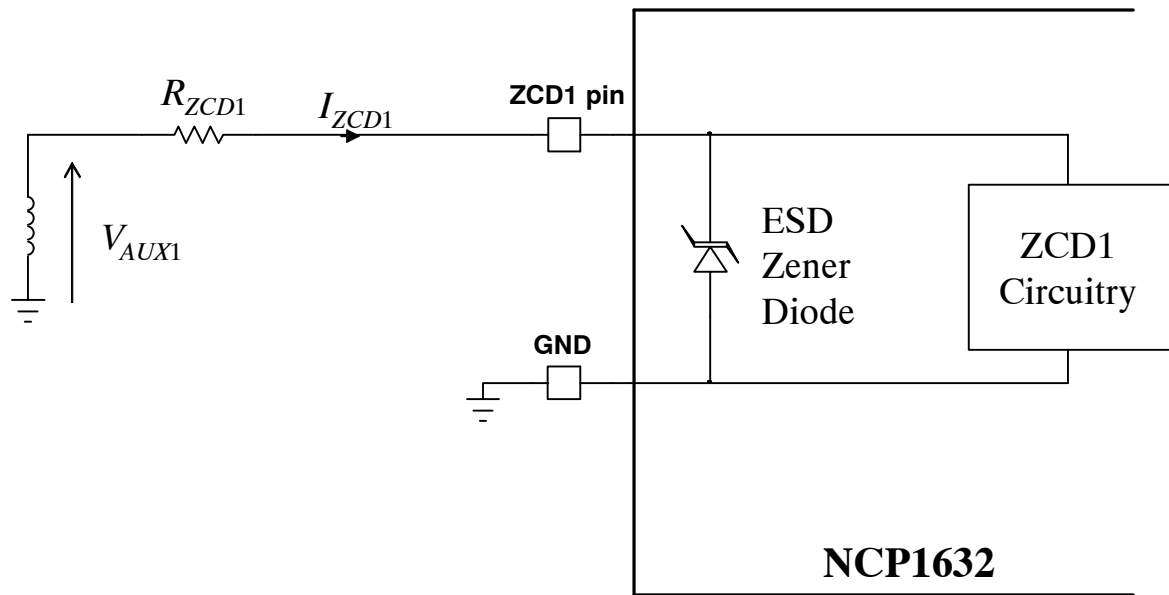

Figure 2. Limit the ZCD1 pin current (I_{ZCD1}) between -5 mA and 5 mA (the same is valid for the ZCD2 pin)
- These maximum ratings (-0.3 V / 9.0 V) guarantee that the internal ESD Zener diode is not turned on. More positive and negative voltages can be applied to the ZCD1 pin if the ESD Zener diode current is limited to 5 mA maximum. Typically, as detailed in the Zero Current Detection section, an external resistor is to be placed between the ZCD1 pin and its driving voltage to limit the ZCD1 source and sink currents to 5 mA or less. See Figure 2 and application note AND9654 for more details. The same is valid for the ZCD2 pin.